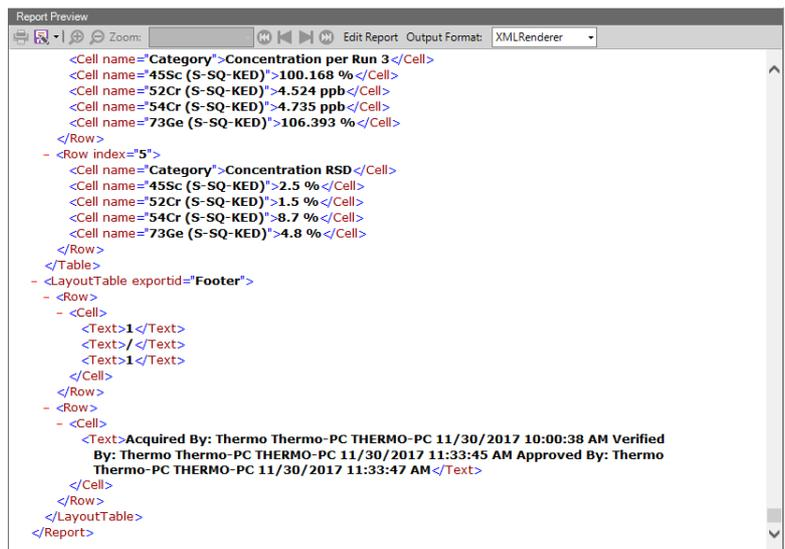

Figure 6-51. Signatures in the Concentrations Report (XML Renderer)
- e. If you select *XML Renderer* as Output Format, the signature is appended to the code, see Figure 6-51.